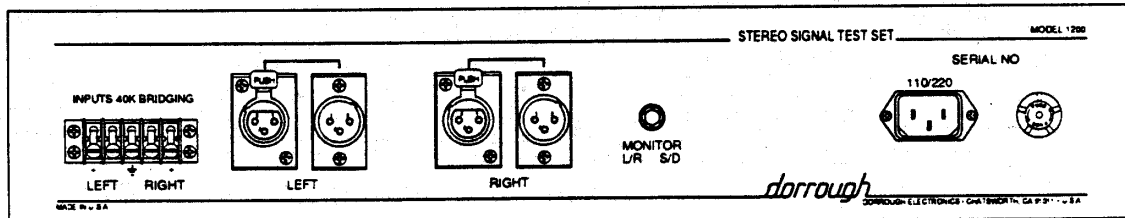

Fig. 2. Rear panel of DORROUGH Stereo Signal Test Set, Model 1200.
3. Feed a mono +4 dB test signal (i.e. 1 kHz tone) to the unit through the appropriate LEFT input connection located on the back panel, as shown in Fig. 2.